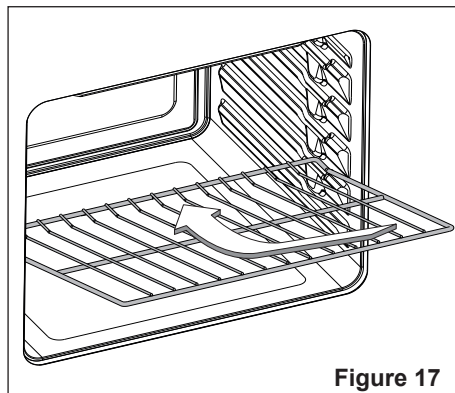

Figure 17
- The oven shelf is provided with a security block to prevent accidental extraction. It must be inserted operating as per figure 17.